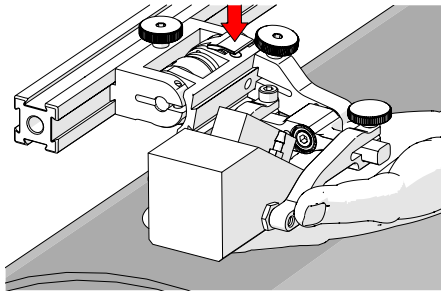

Fig. 155 - Lift and press latch button
3. Lift the probe slightly and press the latch button (Fig. 155) to apply spring pressure to the wedge.